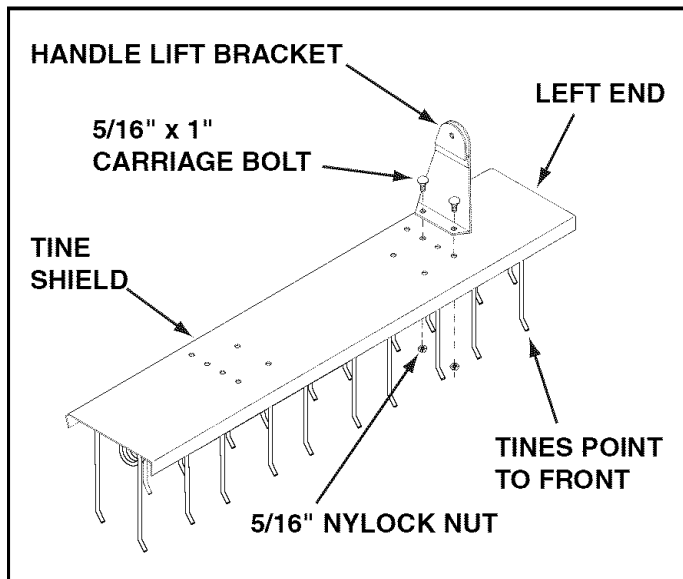

FIGURE 1
1. Assemble handle lift bracket to forward set of holes on left end of tine shield. Use two 5/16" x 1" carriage bolts and 5/16" nylock hex nuts. **Tighten.** See figure 1.